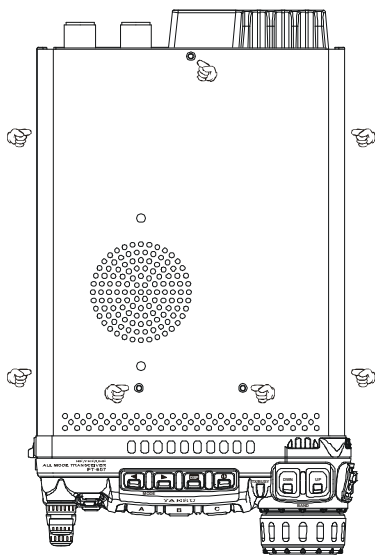

Figure 1
2. Referring to Figure 1, remove the seven screws affixing the top cover of the transceiver then disconnect the speaker's connector from the MAIN Unit.